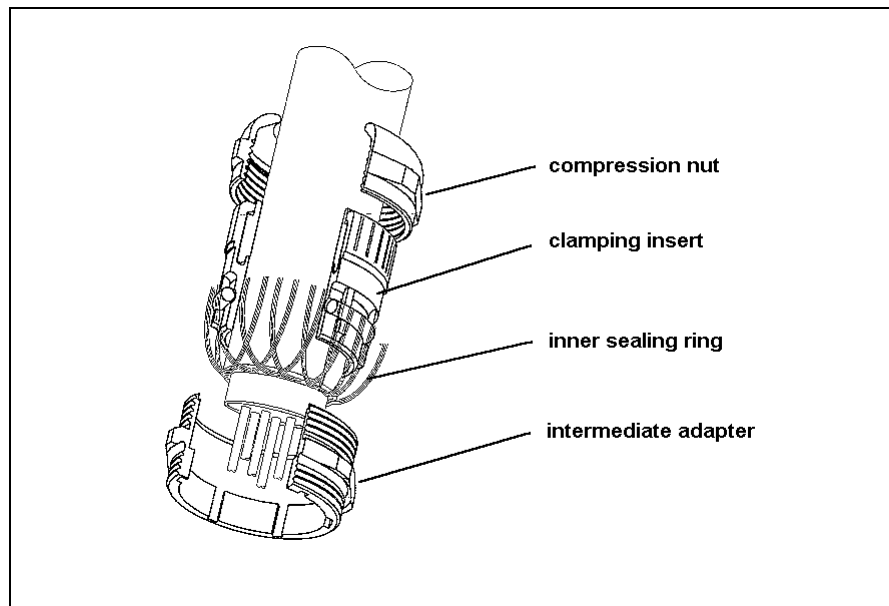

Figure 8
- The screen is connected to the respective conduit thread as shown in Fig. 8.